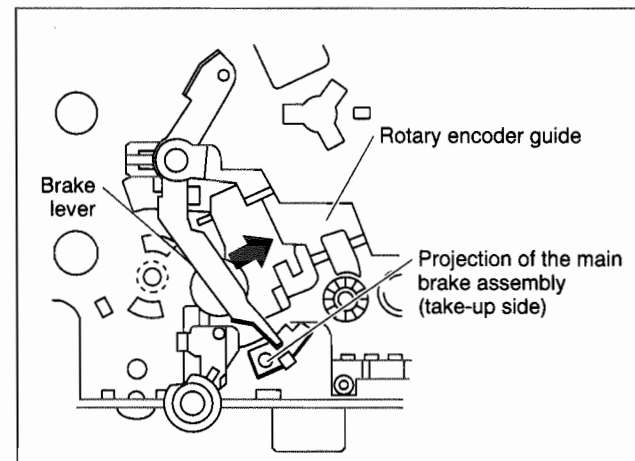

Fig. 2-2-38
- (5) When installing the main brake assembly (take-up side), slide the brake lever in the direction as indicated by the arrow to prevent it from hitting the projection of the main brake assembly (take-up side). (See Fig. 2-2-38.)